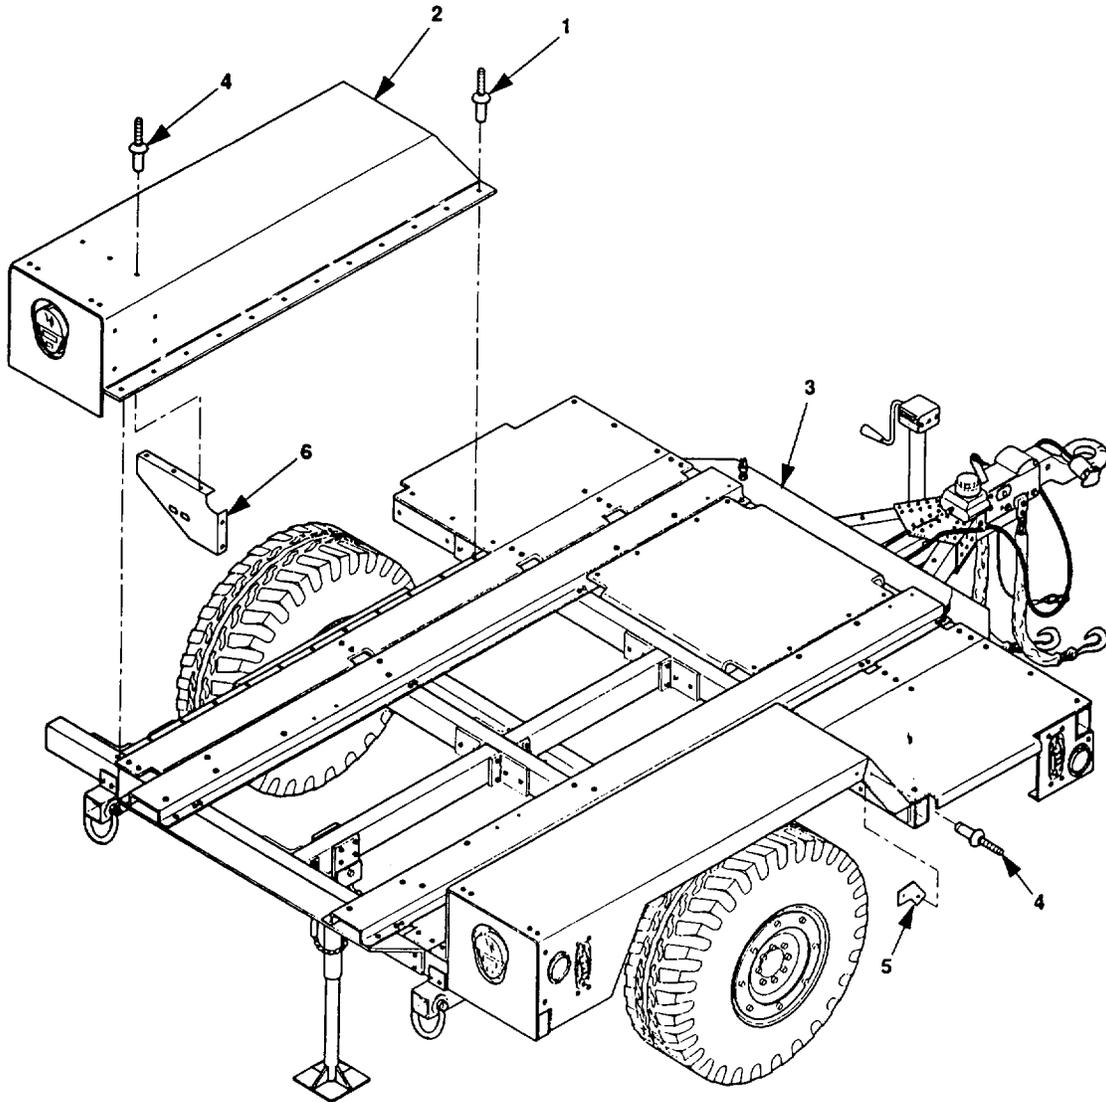

Figure 5-20.2. PU-797A and AN/MJQ-35A Fender Replacement.
(1) Data plate (paragraph 4-22).
(2) Fire extinguisher and bracket (paragraph 4-20).
(3) Side marker light and reflector (TM 9-2330-392-14&P).
b. Remove rivets (1, figure 5-20.2) and fender (2) from trailer chassis (3).
- a. Place fender (2, figure 5-20.2) on trailer chassis (3) and secure with rivets (1).
- (1) Data plate (paragraph 4-22).
- (2) Fire extinguisher and bracket (paragraph 4-20).
- (3) Side marker light and reflector (TM 9-2330-392-14&P).